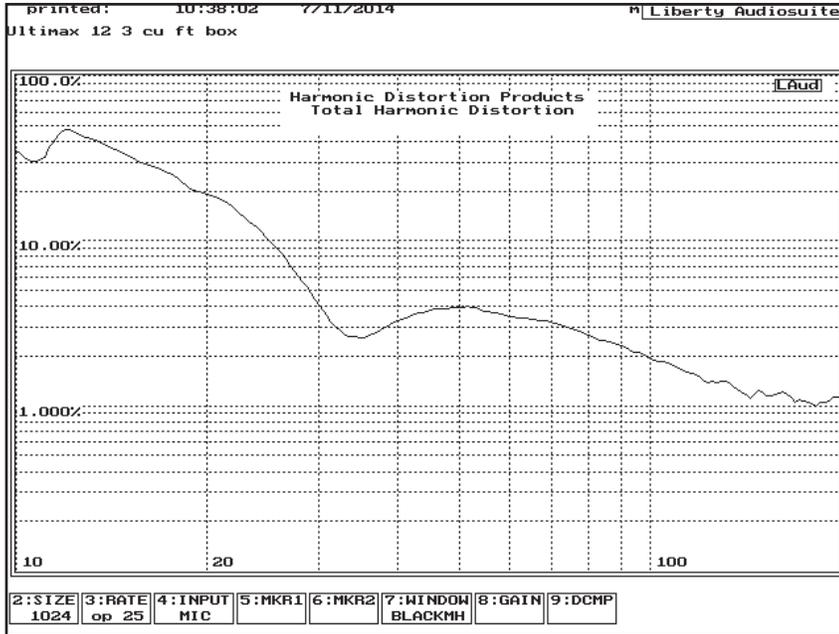

Figure 3: Dayton Audio Ultimax 12" driver's total harmonic distortion (THD) is measured at 100 dB at 1 m.
**Figure 3** shows the distortion measurements. Actually, I was quite surprised with the low figures I got at 100 dB. Although not a high level for testing at higher frequencies, it is unusual for a speaker to do well at this level at low frequencies. Above resonance, the distortion is in the 1-3% range. The driver is well within its linear limits at this point. Below resonance, the distortion climbs in a fairly linear fashion to a peak of just under 50%,